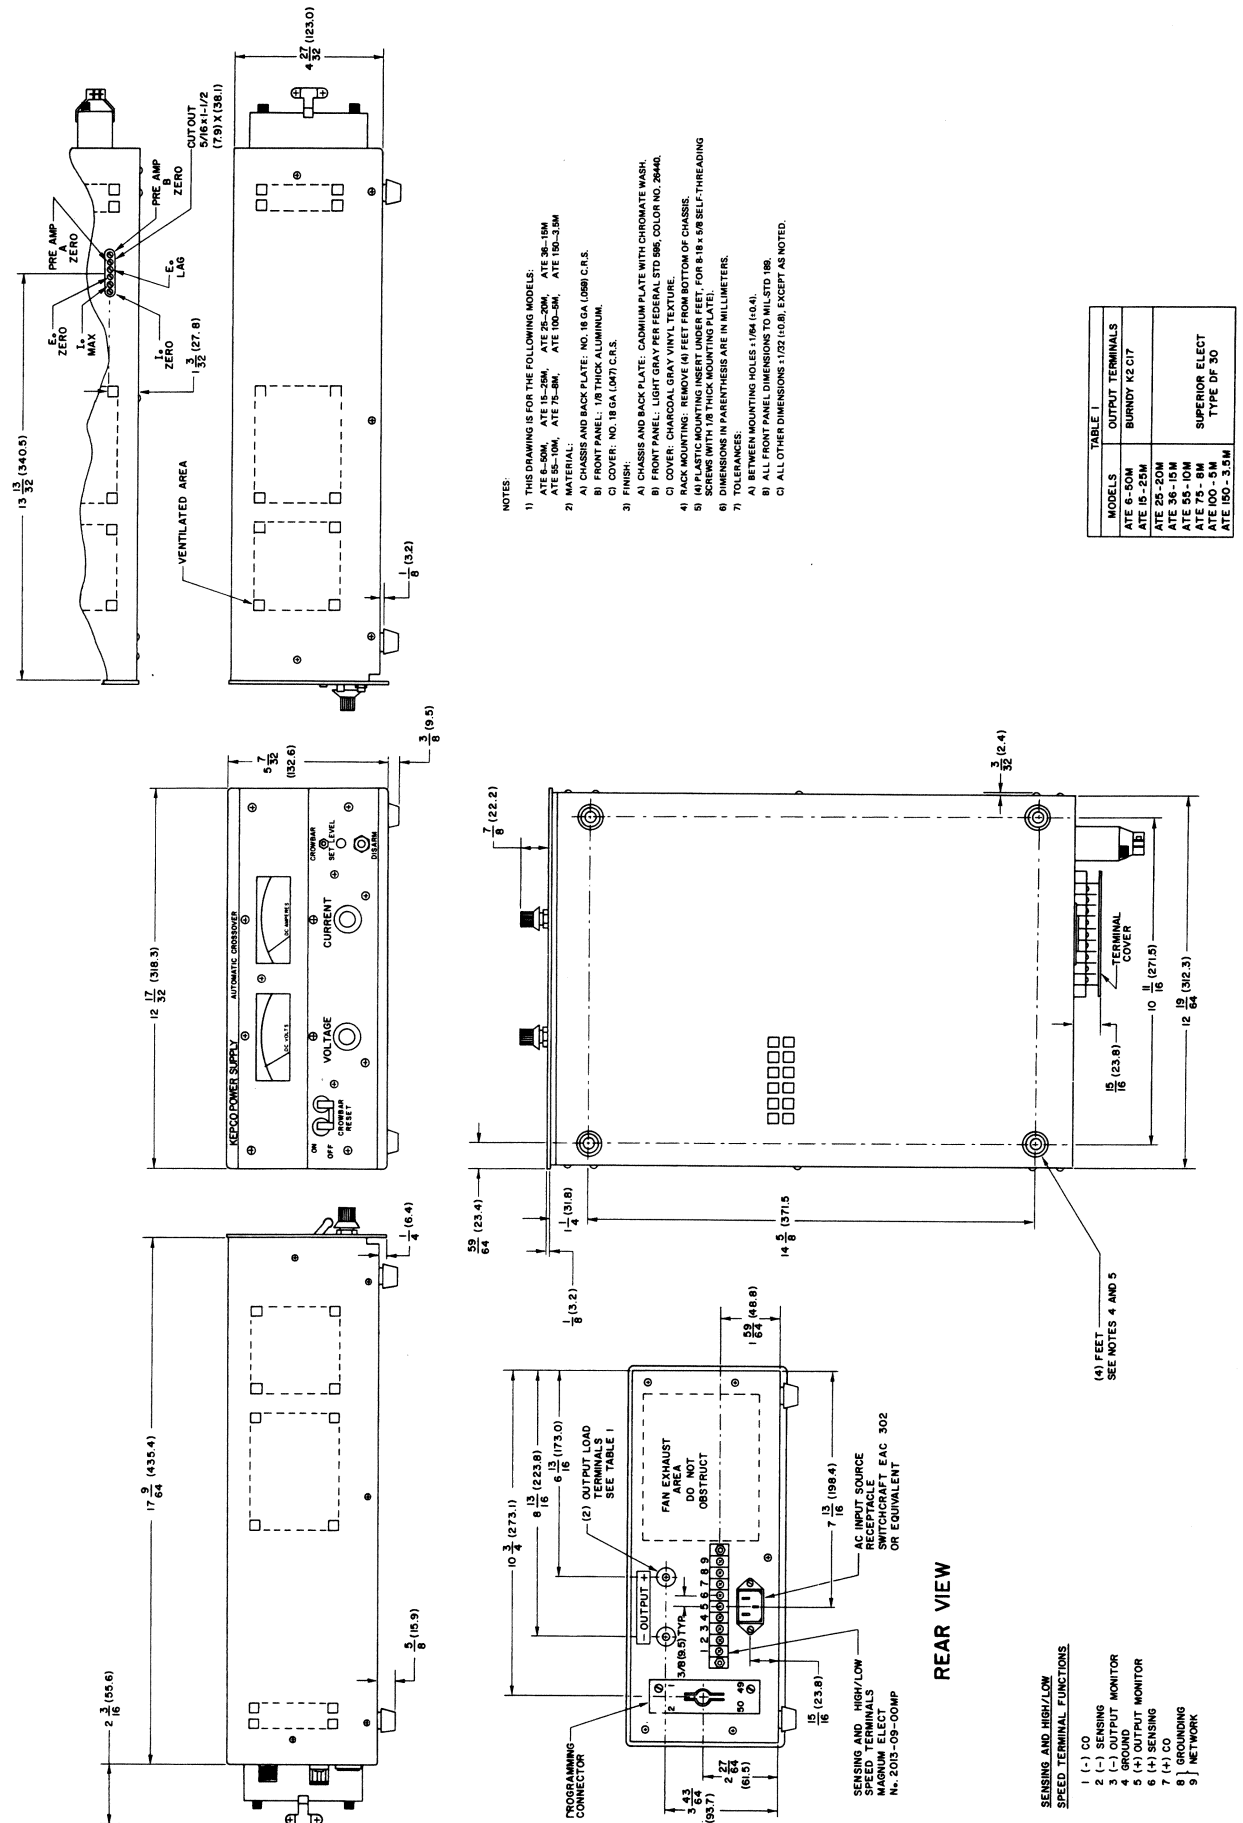

FIG. 1-2 MECHANICAL OUTLINE DRAWING
- a) Refer to the "Mechanical Outline Drawing", FIG. 1-2.